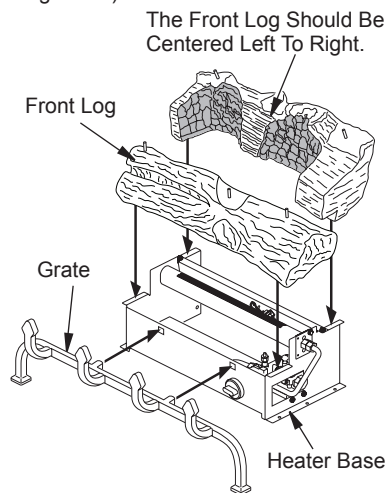

Figure 18 - Installing Grate and Logs
1. Place grate into square holes on heater base as shown in Figure 18.
2. Place front log on burner so that it sits between grate fingers and burner (see Figure 18).
3. Place rear log on heater base behind the metal burner. The bottom of the rear log has recess areas on the left and right side for the base to set into. Pull the rear log forward until it touches the front log (see Figure 18, page 15).